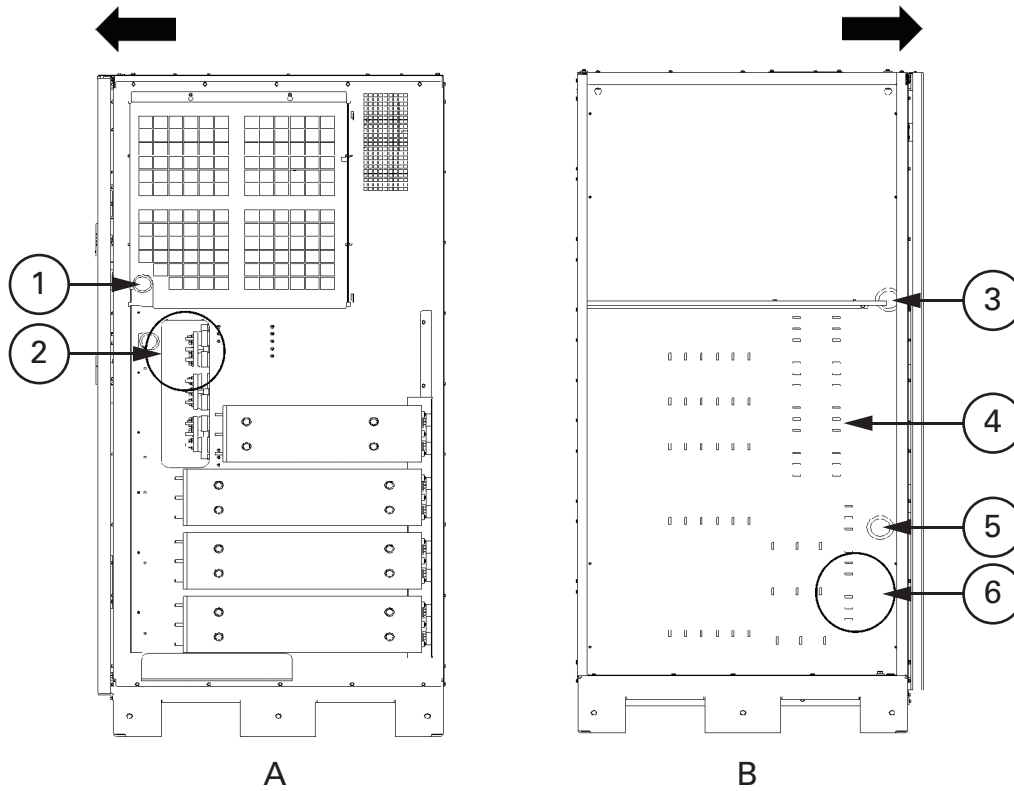

Figure 4-10. UPS intercabnet interface harness locations
Four intercabinet interface wiring harnesses are supplied coiled against the right side panel of the ISBM section (see A in Figure 4-10).
15. In the ISBM section (see A in Figure 4-10), locate the long coiled wiring harnesses with the J50, J51, J61 and J70 connectors attached. Remove the wire ties securing the harnesses and uncoil the harnesses.
16. Locate the mating P50 connector in the UPM section wireway (see B in Figure 4-10) and connect the P50 connector to the J50 connector.
17. Locate the mating P51 connector in the UPM section wireway (see B in Figure 4-10) and connect the P51 connector to the J51 connector.
18. Locate the mating P61 connector in the UPM section wireway (see B in Figure 4-10) and connect the P61 connector to the J61 connector.
19. Locate the mating P70 connector in the UPM section wireway (see B in Figure 4-10) and connect the P70 connector to the J70 connector.
Intercabinet interface wiring harnesses are supplied coiled against the left side panel of the UPM section (see B in Figure 4-10).
20. In the UPM section (see B in Figure 4-10), locate the coiled RJ45 CAN cable. Remove the wire ties securing the harnesses to the interior left side panel of the UPM section. Route the harnesses through the round wiring access in the right side panel of the ISBM section (see B in Figure 4-10).